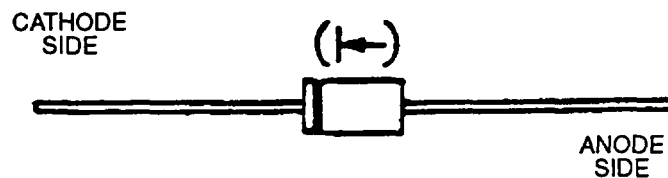

FIGURE 2-12. Diode Identification
- Connect positive lead of multimeter to cathode side and negative lead to anode side of each diode CR1 and CR2. Note ohms indication on multimeter for each diode. Refer to FIGURE 2-12.